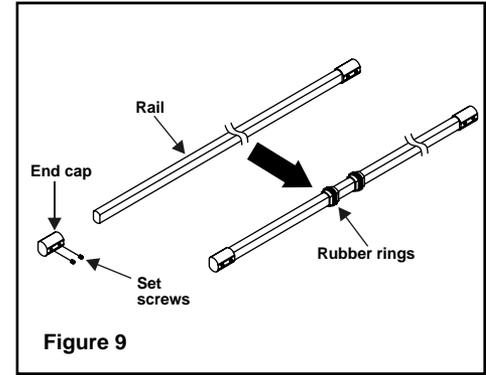

Figure 9
1. Loosen the set screws of the end caps and remove the end caps from the rail. Place 2 rubber rings to the rail. (Fig. 9)